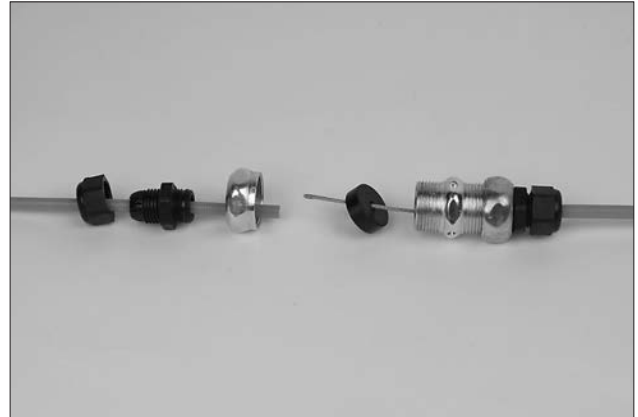

FIGURE 5-103
7. Install strain relief nut, strain relief, and compression union nut on remaining section of flexible conduit and install flexible conduit insert on wire rope. See Figure 5-103.